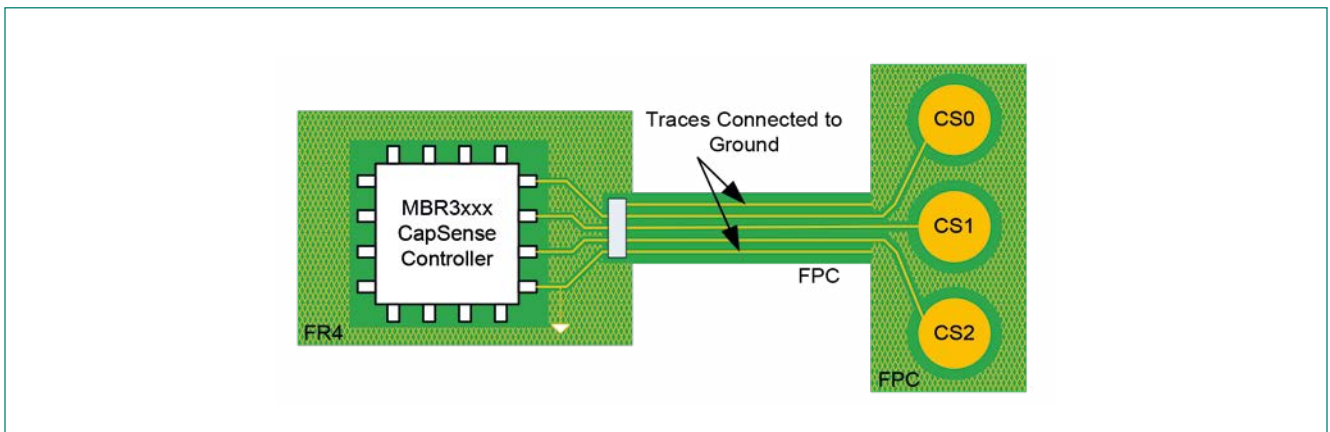

Figure 4-21 CAPSENSE™ Design on an FR4 and FPC
Figure 4-21 shows a CAPSENSE™ design in which the CAPSENSE™ sensors are implemented on an FPC and the CAPSENSE™ controller is placed on an FR4 PCB. The CAPSENSE™ sensors are connected to the controller using a FPC connector.
2. In the FPC connector, to minimize the noise coupling to the CAPSENSE™ system via sensor trace, reduce the sensor trace length and place a ground trace in parallel to the sensor trace, as Figure 4-21 shows.